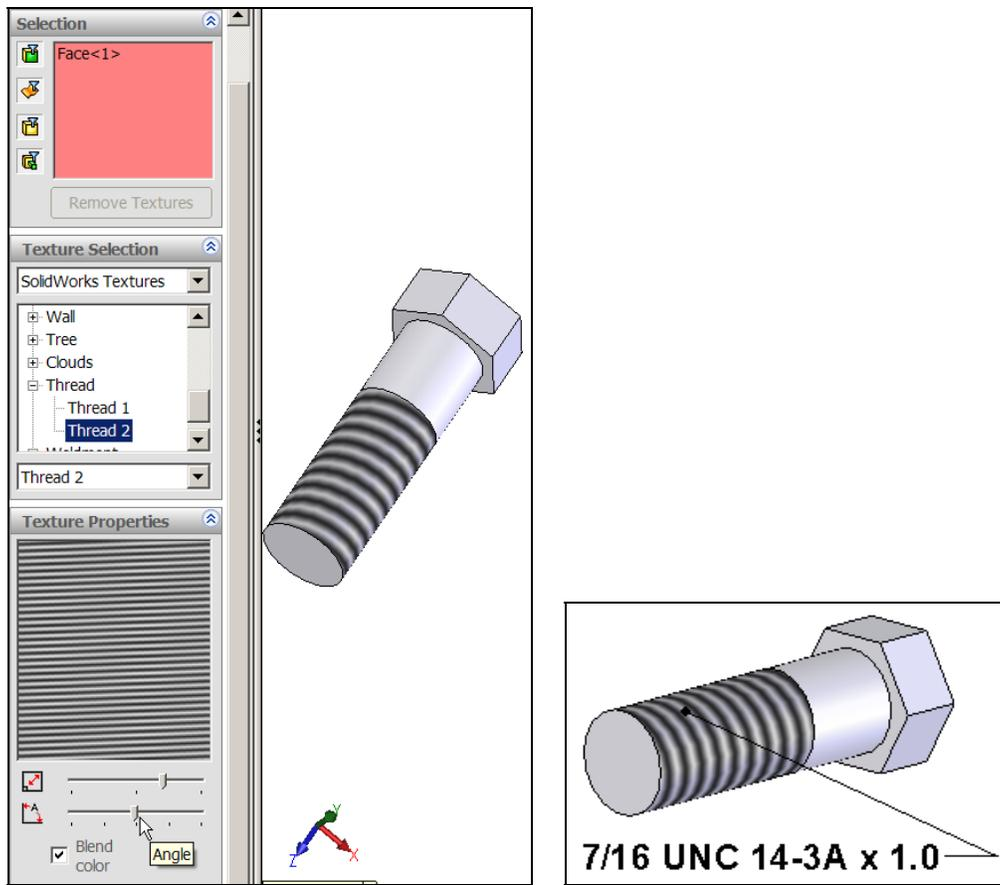

Figure 3 Selecting a "thread" texture and adding a descriptive note
6. Then describe the standard thread you want by adding a note to the texture surface, **Insert→Annotation→Note**. Give the diameter, number of threads per inch (or length if metric), the standard code, quality, and thread length (see Figure 3).